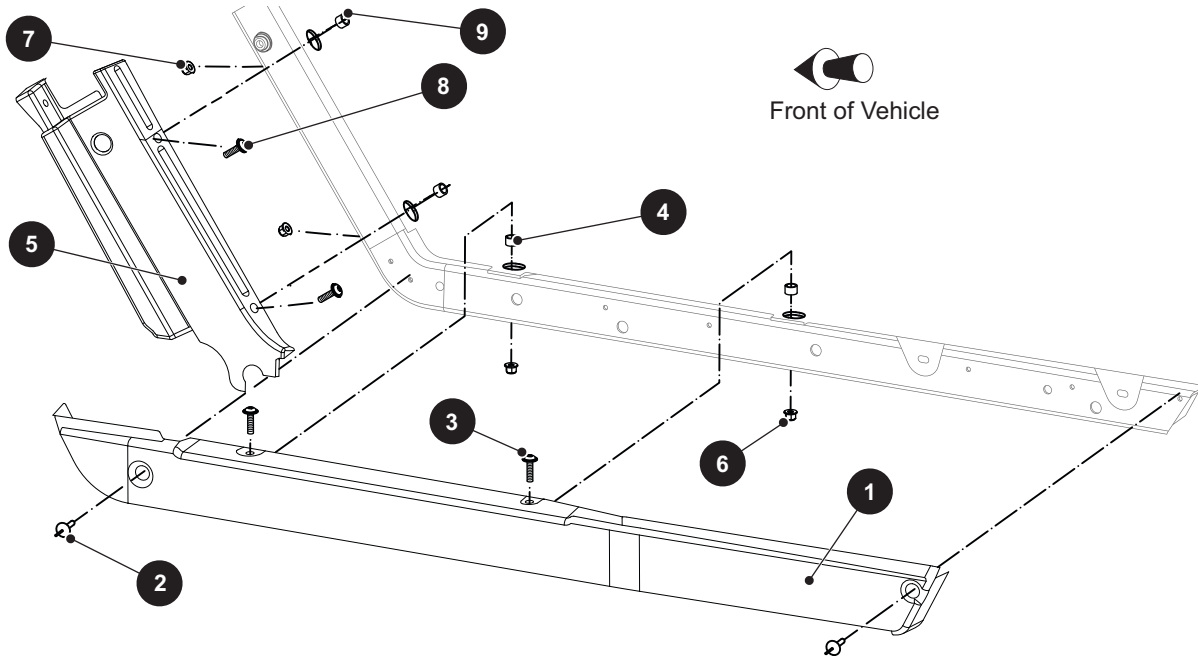

Figure 2 Rocker Panel
1. Drill out the rivets (2) securing the lower rocker panel (1).
2. Remove the nuts (6) and screws (3) securing the lower rocker panel (1). Make sure to retain the spacers (4) for reuse during assembly.
3. Remove two nuts (7) and screws (8) securing the upper rocker panel (5). Make sure to retain the spacers (9) for reuse during assembly (Ref. Figure 2).